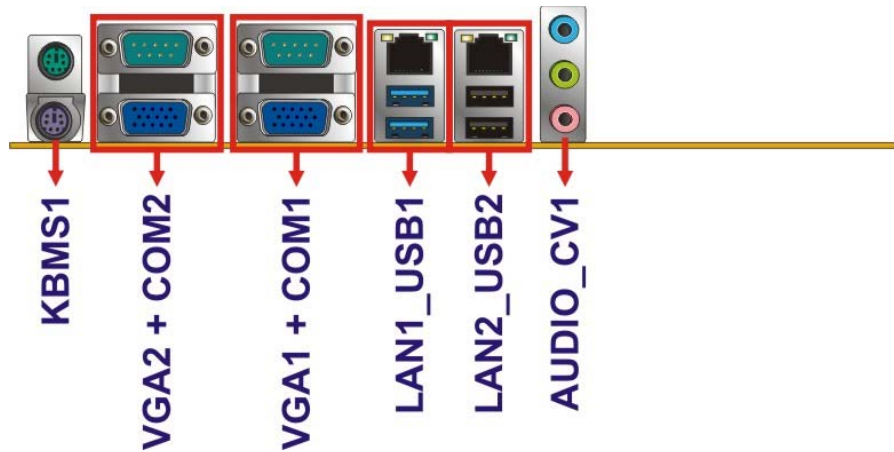

Figure 3-26: External Peripheral Interface Connector
CN Location:	See Figure 3-26
- CN Location:** See **Figure 3-26**
CN Location: See **Figure 3-26**